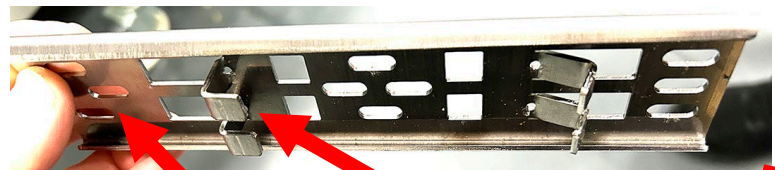

Figure 36
76. The bracket has two hooked tabs that are closest to the side with the three (3) oval staggered openings (see Figure 36).